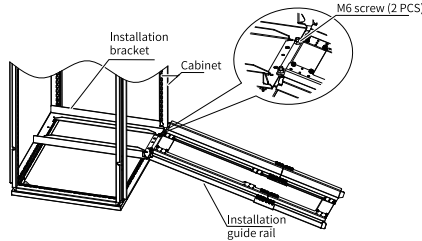

Figure 5-9 Mounting the guide rails to the cabinet
- b. Align the two round holes at the front end of the mounting rail with the screws of the mounting bracket, and then lock the guide rail to the cabinet with two M6 nuts, as shown in *"Figure 5-9 " on page 108 .*